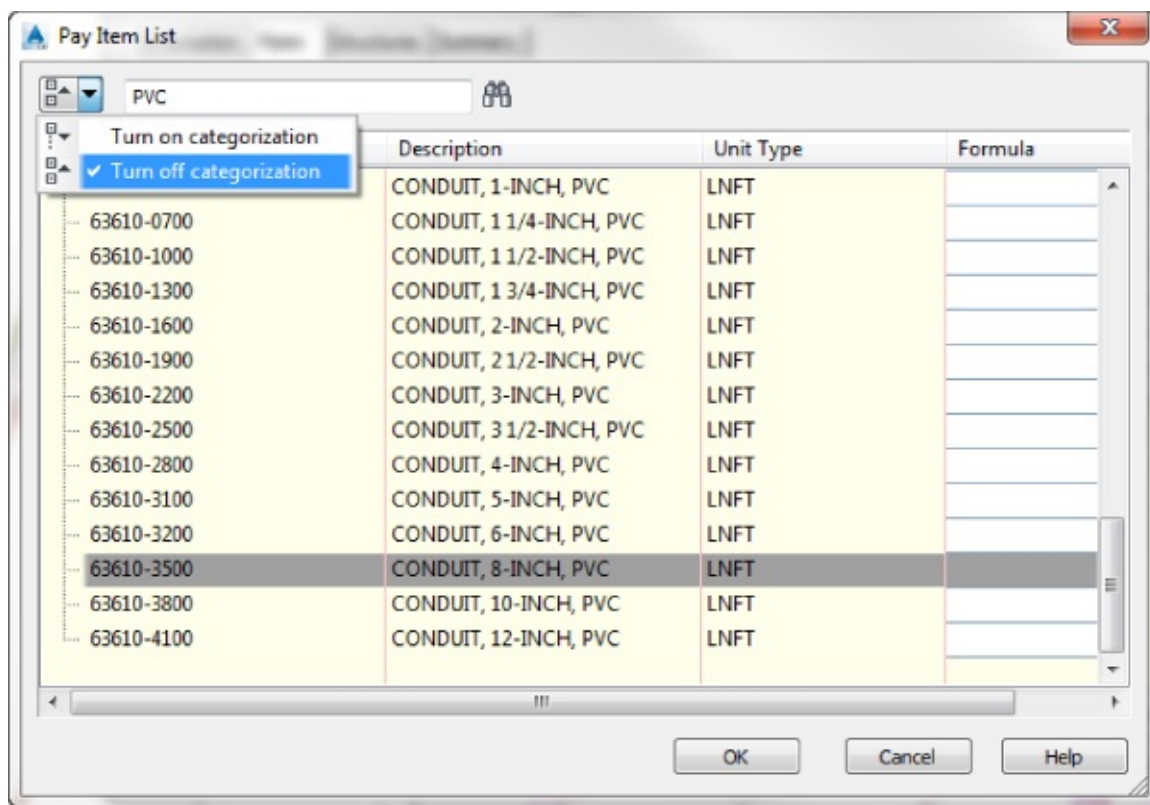

Figure 17.13 Filtering and selecting the 8-inch PVC conduit as a pay item
6. Turn off categorization and enter **PVC** in the text box, as shown in Figure 17.13, and press **↵** to filter the dialog.